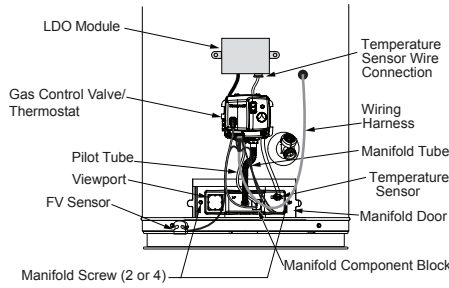

Figure 50 - Front view of water heater with outer door removed.
- 4 Remove the manifold screws (1/4” nut driver) securing the manifold door to the combustion chamber (Figure 50).